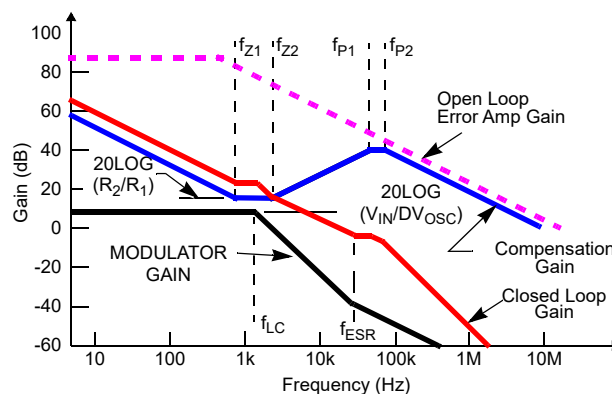

Figure 60. Asymptotic Bode Plot of Converter Gain
Figure 60 shows an asymptotic plot of the DC/DC converter's gain vs frequency. The actual modulator gain has a high gain peak due to the high Q factor of the output filter and is not shown in Figure 60. Using the guidelines provided should give a compensation gain similar to the curve plotted. The open-loop error amplifier gain bounds the compensation gain. Check the compensation gain at f_{P2} with the capabilities of the error amplifier. The closed-loop gain is constructed on the graph of Figure 60 by adding the modulator gain (in dB) to the compensation gain (in dB). This is equivalent to multiplying the modulator transfer function to the compensation transfer function and plotting the gain. The compensation gain uses external impedance networks Z_{FB} and Z_{IN} to provide a stable, high bandwidth (BW) overall loop. A stable control loop has a gain crossing with -20dB/decade slope and a phase margin greater than $+45^\circ$. Include worst case component variations when determining phase margin. A more detailed explanation of voltage mode control of a buck regulator can be found in *TB417: Designing Stable Compensation Networks for Single Phase Voltage Mode Buck Regulators*.